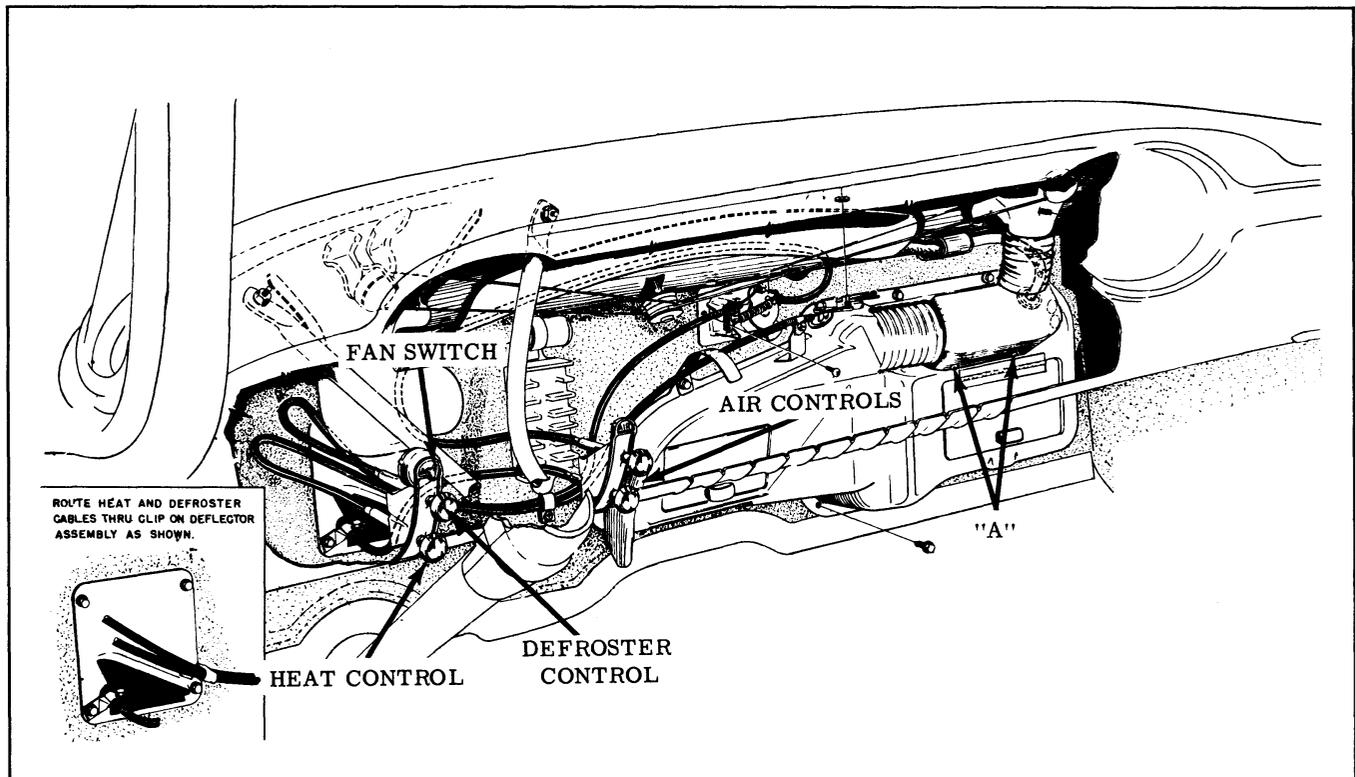

Fig. 16-13 Heater and Defroster
5. Remove defroster outlet to heater case Phillips head screws, "A", Fig. 16-13, and free defroster outlet from heater case leaving hose connections intact.
6. Remove heater case flange to dash hex head screws (See Fig. 16-13) and remove heater.